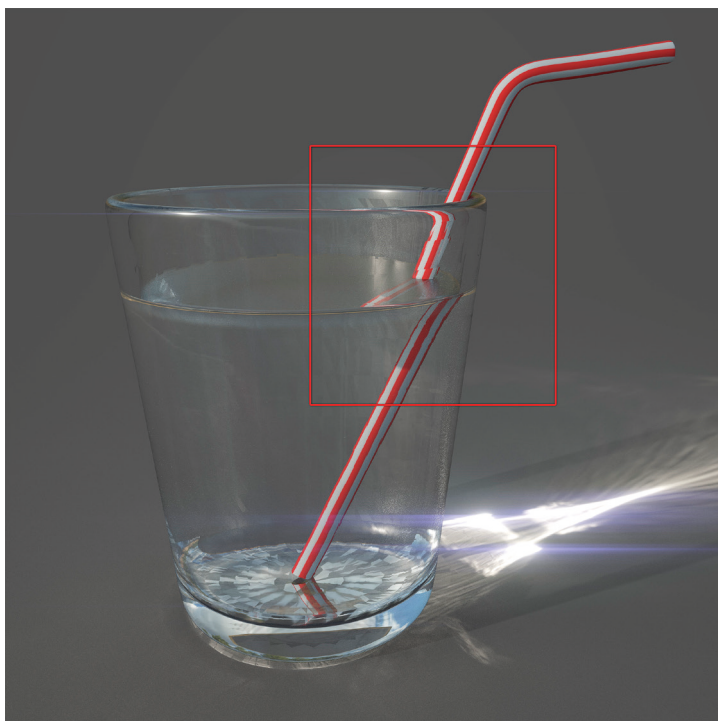

Figure 05: The straw appears bent due to refraction
**Refraction** is a change in a light ray's direction. When light moves from one medium to another it changes speed and direction. The **index of refraction**, or **IOR**, is an optical measurement that describes the change in the direction a light ray is traveling. Essentially, the IOR value is used to determine how much the ray will be bent when it passes through one medium to another. For example, water has an IOR of 1.33, whereas plate glass has an IOR of 1.52. In figure 05 you can see a rendering of a straw placed in a glass of water. The straw appears bent due to refraction as the light travels through different mediums (air, water and glass).